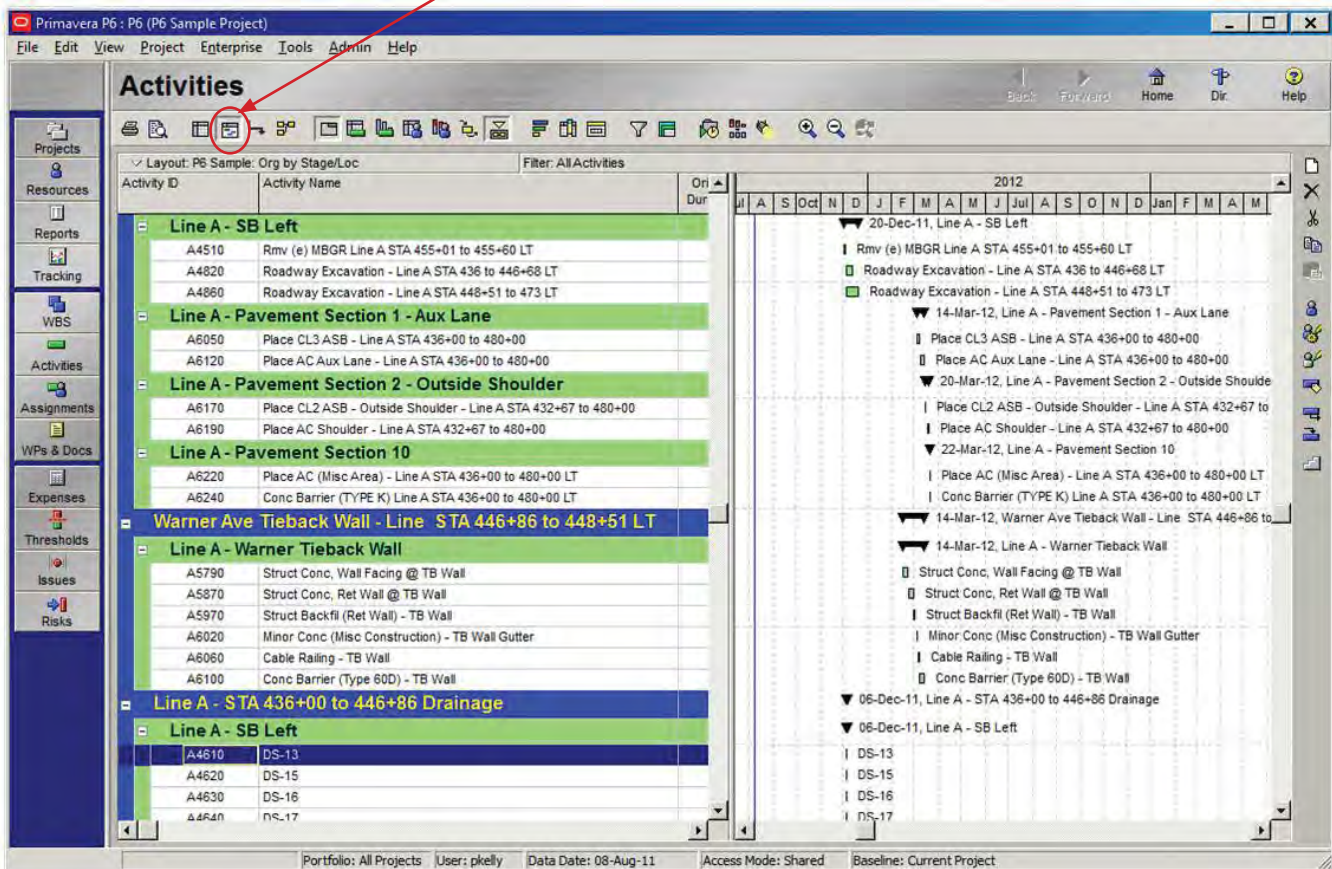

Figure 4-9 Top Layout - Gantt Chart
**Gantt Chart**—the default view in the Activities window, **Figure 4-9**. It can be customized both on the timescale and the information shown. The bars can be customized to show different colors, shapes, and patterns. Labels can easily be added to the right or left. Relationships between activities can also be shown. Summary bars showing the duration of a group of related activities can also be set up.